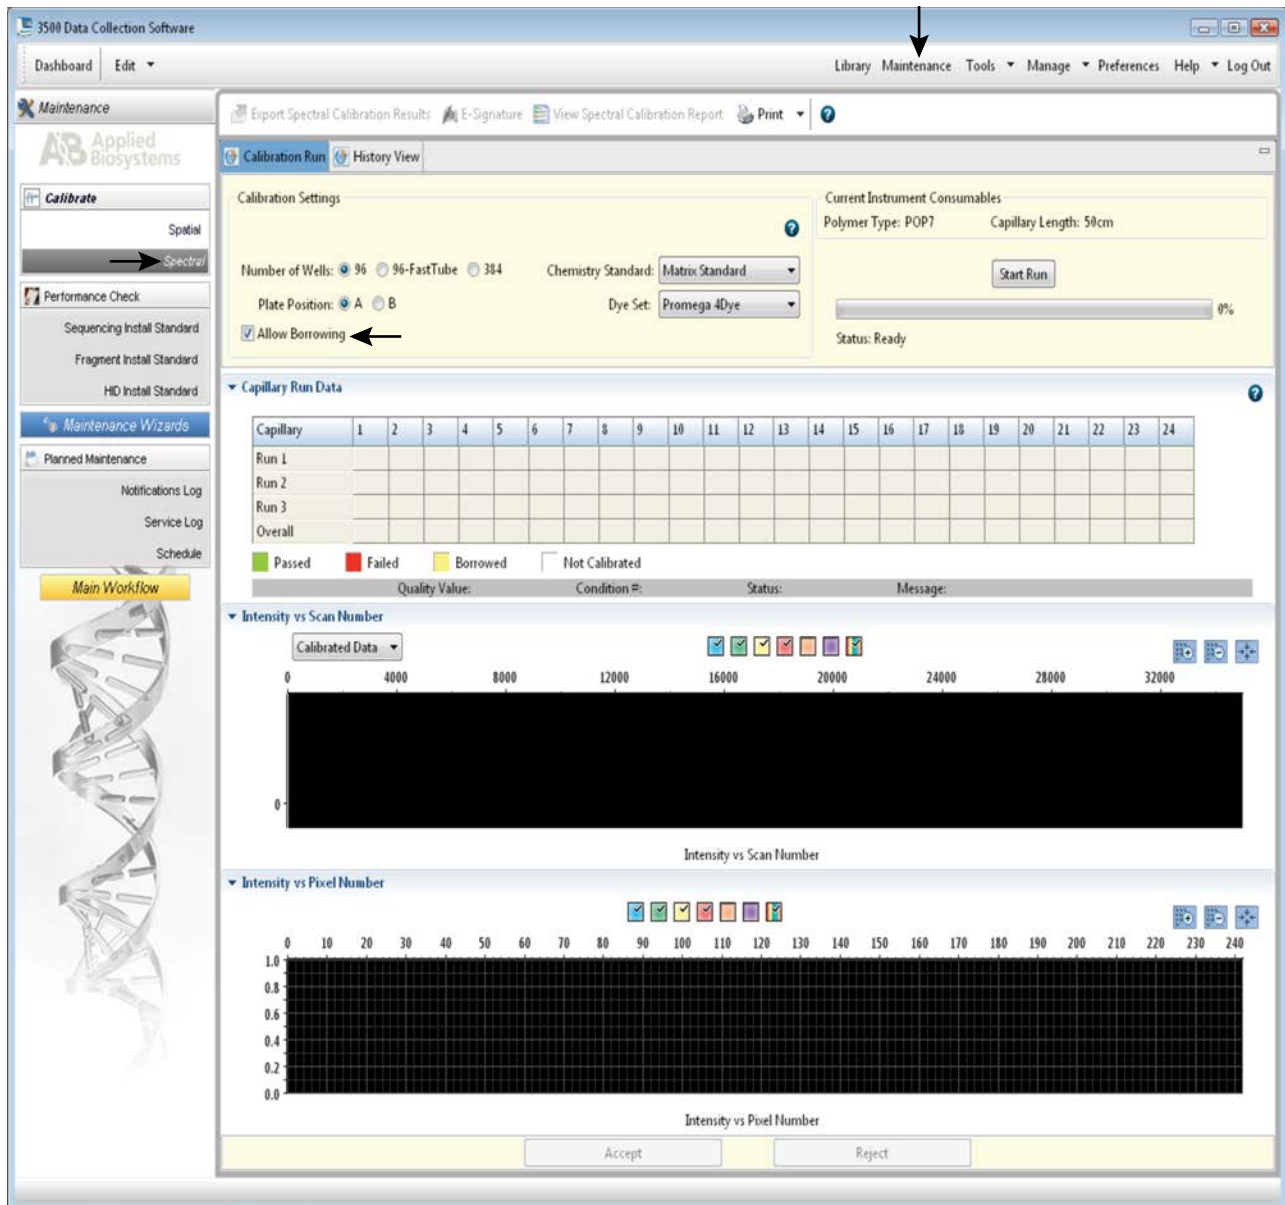

Figure 3. Calibration Run.
- c. To perform the spectral calibration with the Promega 4-dye chemistry, choose “Maintenance” from the Menu bar, then choose “Spectral” in the navigation pane. Under the Calibration Settings choose “Matrix Standard” as the Chemistry Standard, and select the name of the dye set you created in Step 2.b. Check the Allow Borrowing checkbox. Select other options as shown in Figure 3.